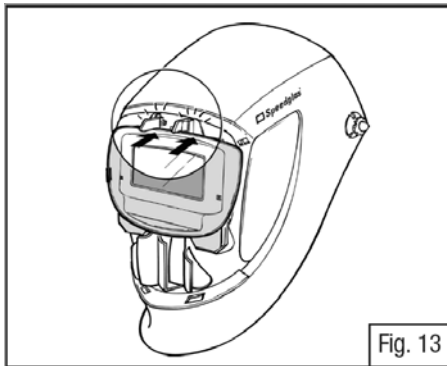

Fig. 13
- 2) Push the upper part of the ADF cassette towards the shell until the tabs at the top lock into the clips on the shell (figure 13).